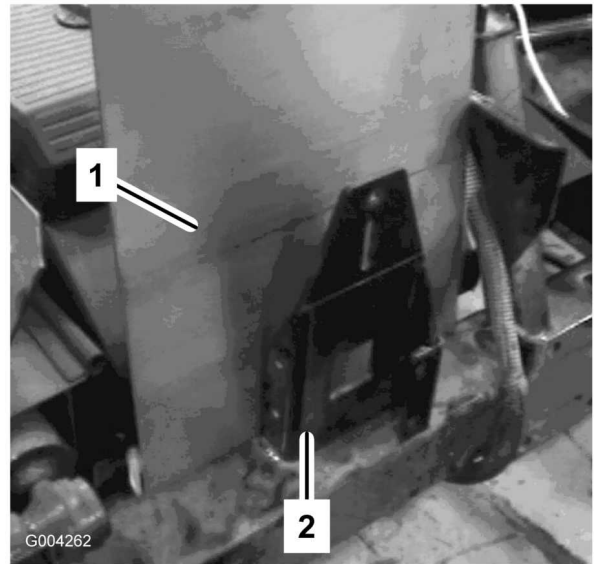

Figure 8
3. Place a metal sheet between the engine valve cover and the selector bracket. The sheet will shield the engine from the saw blade during the cutting (Figure 8).